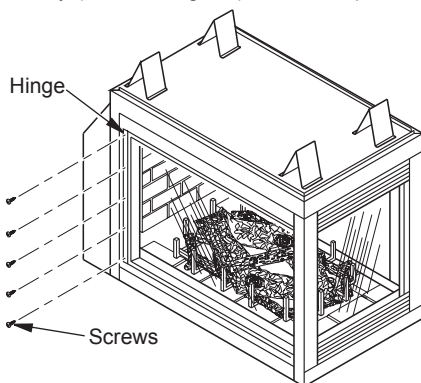
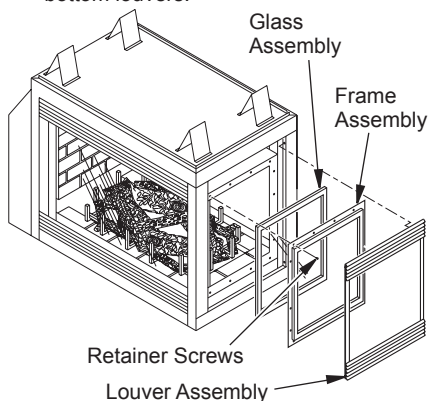

Figure 56 - Removing Glass Door
Figure 57 - End Panel Replacement
- If glass is broken, wear gloves and tape remaining fragments onto frame. Remove 5 screws located on end of firebox while holding frame assembly to prevent it from falling and causing injury (see Figure 56). Mount new frame at hinge with 5 new screws. Close and latch door. This will seat gasket. If replacing end glass panel, remove 16 screws around frame (see Figure 57). To insure proper fit, when installing new glass panels make sure seam in gasket is placed in the down position.